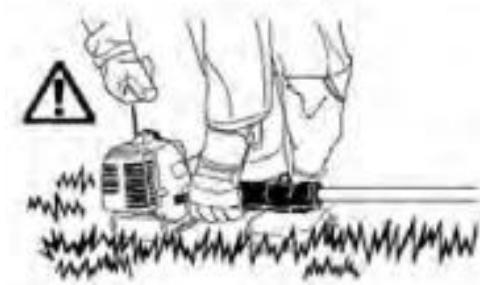

Fig.15
- 4) Slowly pull the recoil starter until you feel it engage and then pull it quickly till it starts. (fig.15)